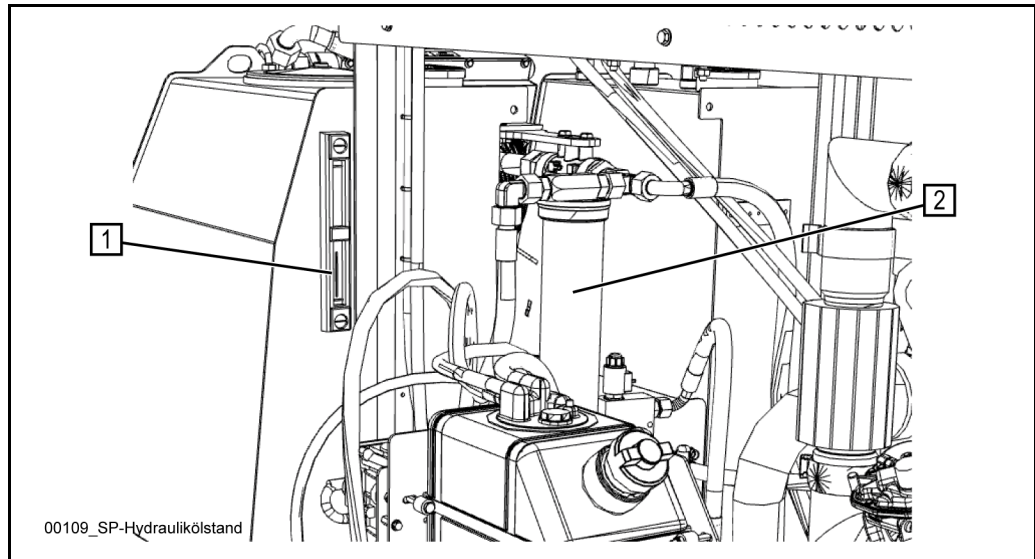

Fig. 98
- Check the hydraulic oil level. The oil level must be visible at the top of the level indicator (1) (**Fig. 98**) when the drive is not running.